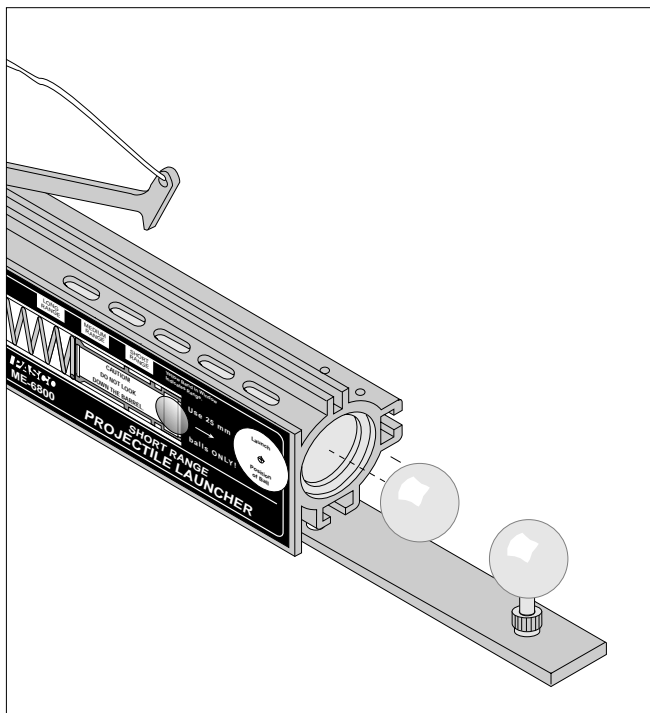

Figure 6.2: Photogate Bracket and Tee
- ① Clamp the Projectile Launcher to a sturdy table near one end of the table with the Launcher aimed inward toward the table.
- ② Adjust the angle of the Projectile Launcher to zero degrees so the ball will be shot off horizontally onto the table. Fire a test shot on the short range setting to make sure the ball lands on the table.
- ③ Cover the table with butcher paper. The paper must extend to the base of the Launcher.
- ④ Mount collision attachment on the Launcher. See Figure 6.2. Slide the attachment back along the Launcher until the tee is about 3 cm in front of the muzzle.
- ⑤ Rotate the attachment to position the ball from side to side. The tee must be located so that neither ball rebounds into the Launcher and so both balls land on the table. Tighten the screw to secure the collision attachment to the Launcher.
- ⑥ Adjust the height of the tee so that the two balls are at the same level. This is necessary to ensure that the time of flight is the same for each ball. Fire a test shot and listen to determine if the two balls hit the table at the same time.
- ⑦ Place a piece of carbon paper at each of the three sites where the balls will land.